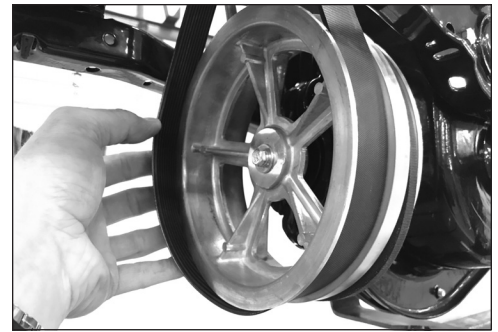

Figure 9
7. Gently rotate the transmission pulley and force the forward belt out of the forward groove and away from pulley. SEE FIGURE 9
3. Gently rotate transmission pulley and force the forward belt into the forward groove. SEE FIGURE 9